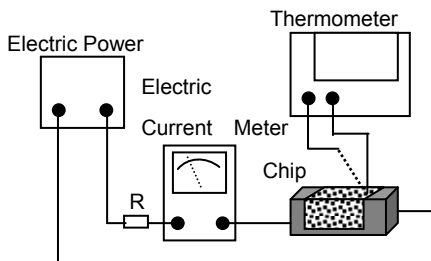

Fig. 5.3.3-1
- d. Definition of Rated Current (Ir): Ir is direct electric current as chip surface temperature rose just 40℃ against chip initial surface temperature(Ta) (see Fig. 5.3.3-2).